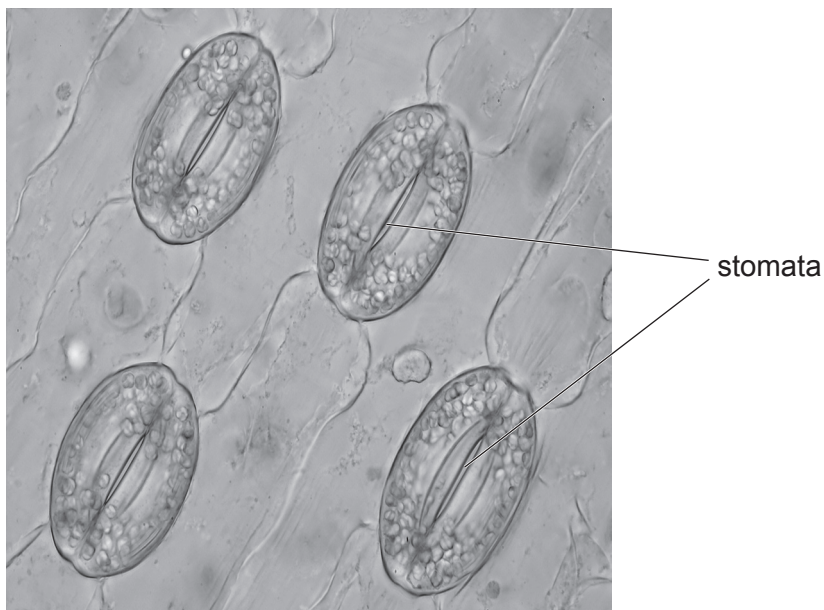
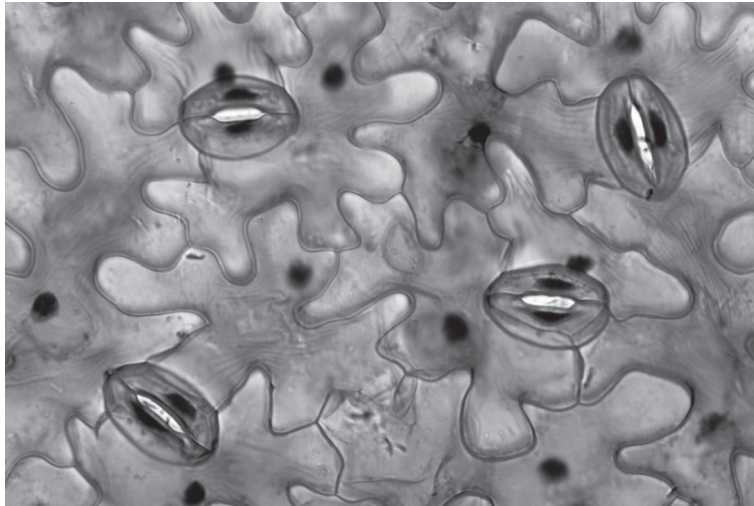

Fig. 2.2
Fig. 2.3
(b) Fig. 2.2 is a photomicrograph showing part of a leaf surface.
The actual area of the photomicrograph in Fig. 2.2 is 0.04 mm².
The leaf from which Fig. 2.2 is taken has a total surface area of 20 cm².
(i) Use Fig. 2.2 to estimate the total number of stomata on the leaf.
- (iii) Fig. 2.3 is a photomicrograph showing part of a leaf surface of a different type of plant.
Fig. 2.2 and Fig. 2.3 have the same magnification.
Identify the observable differences between the leaf surface shown in Fig. 2.2 and the leaf surface shown in Fig. 2.3.